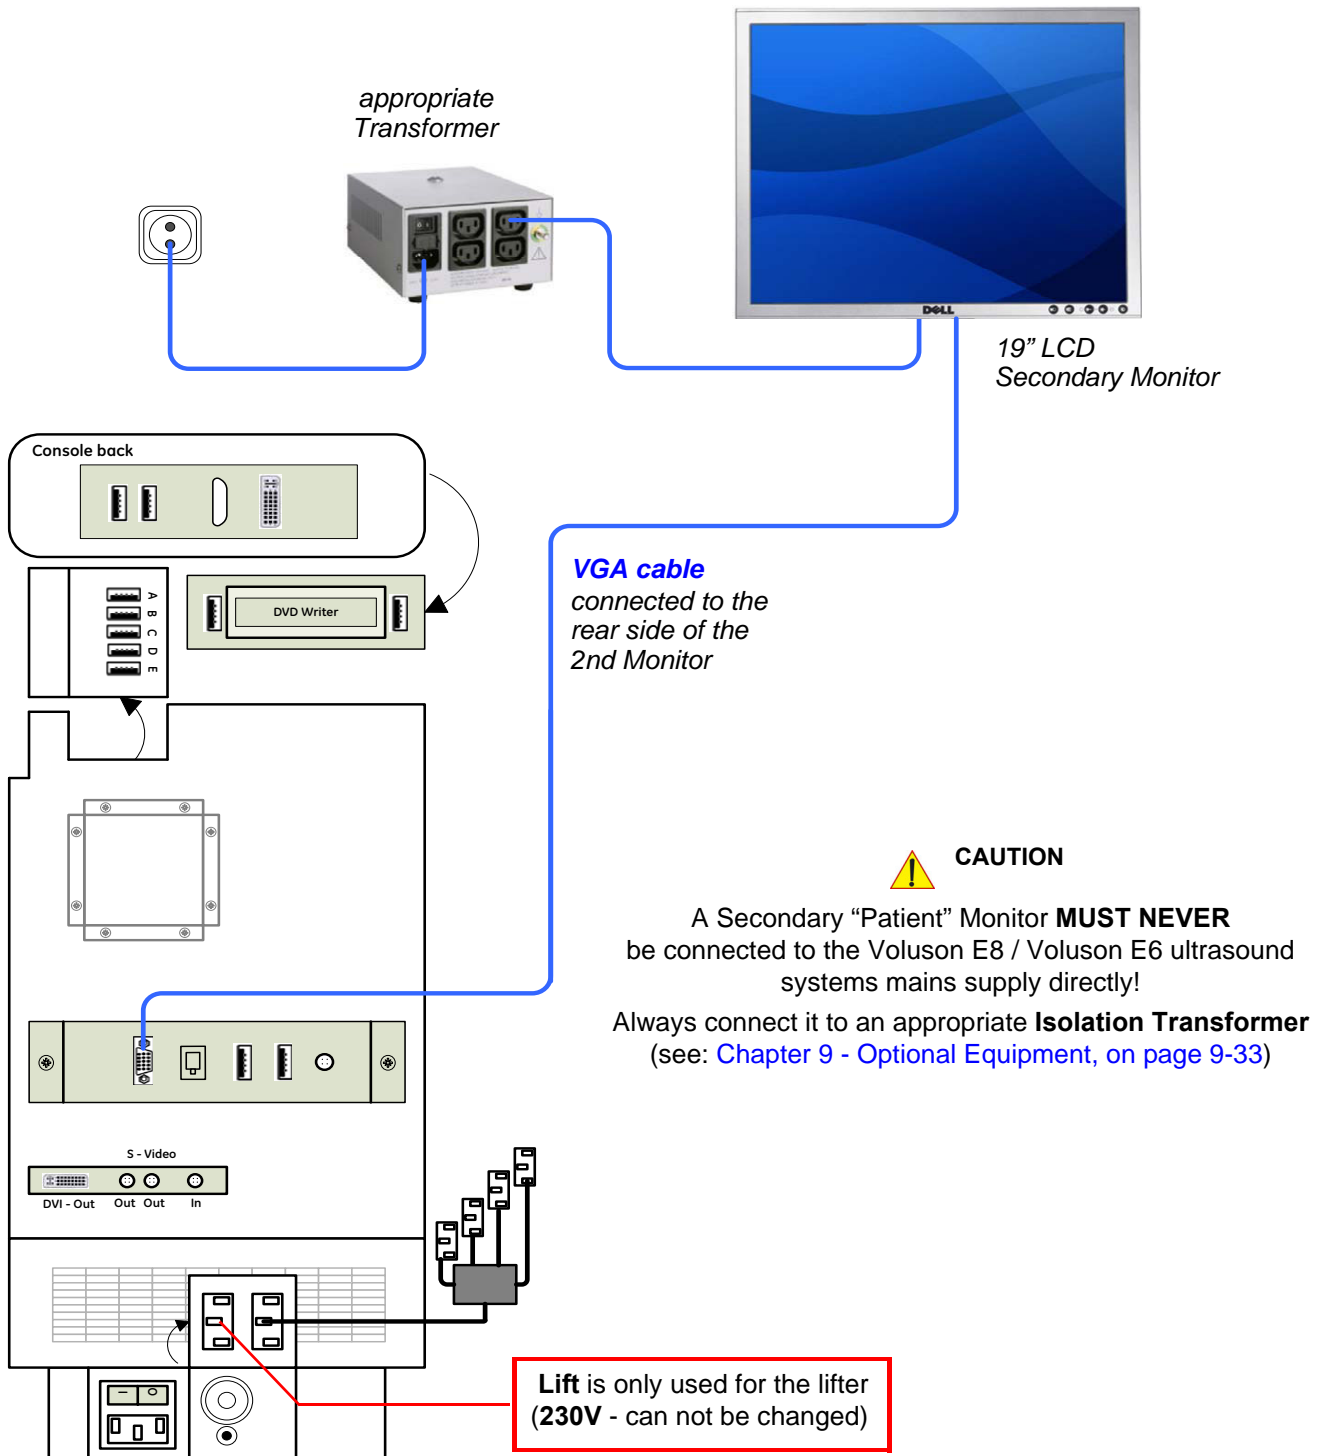

Figure 3-20 Connection Scheme - 19" Secondary LCD Monitor
- 2.) Connect the Secondary Monitor according to connection scheme (see: Figure 3-20 on page 3-26).